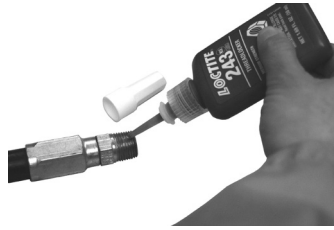

Figure 2: Apply thread sealant
1. Attach swivel to meter. Apply Loctite® 243 sealant, or equivalent, to the male end of the hose. See *Figure 2*.